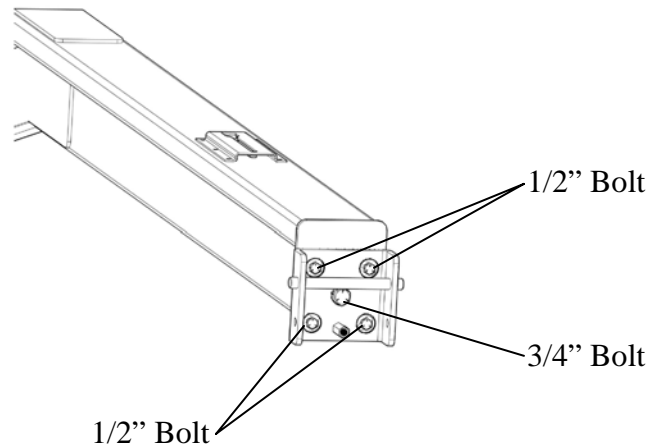

Figure 10
19. To level the backboard in the horizontal plane, loosen the four $\frac{1}{2}$ " bolts and the one $\frac{3}{4}$ " bolt in the center of the Quick Change Bracket attached to the boom. Refer to figure 10. Level the board and tighten all bolts securely.